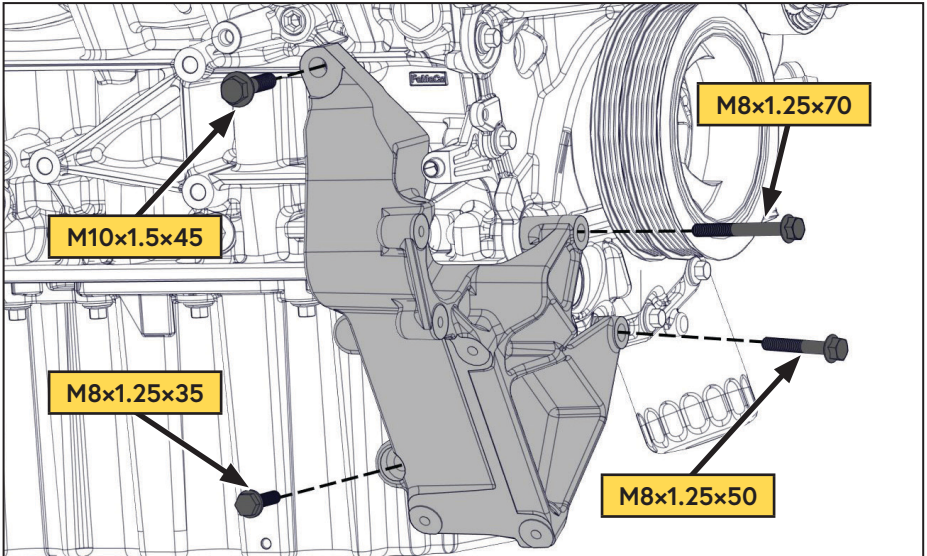

Figure 18 — Install main bracket
- Using the supplied fasteners, mount the main bracket onto the engine (Figure 18).